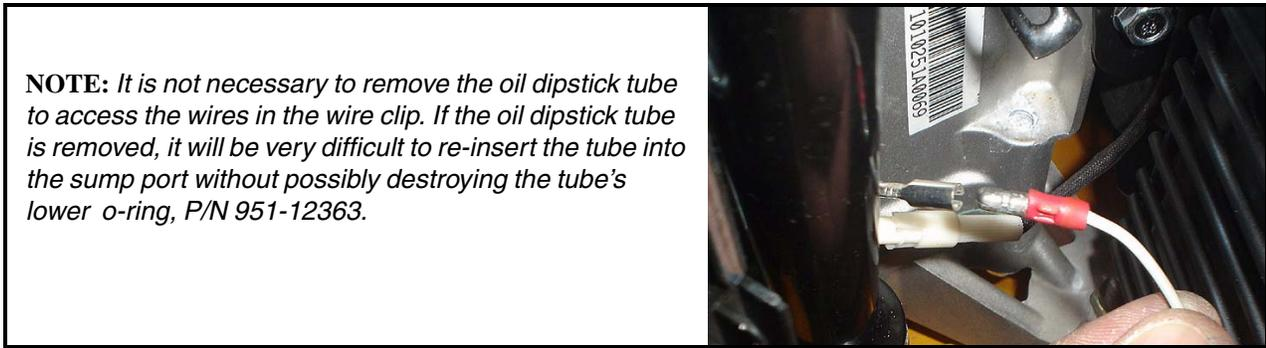

FIGURE 6
10. Disconnect the fuel shut-off solenoid wire from the stator's fuel shut-off solenoid wire located behind the oil dipstick tube. See Figure 6.